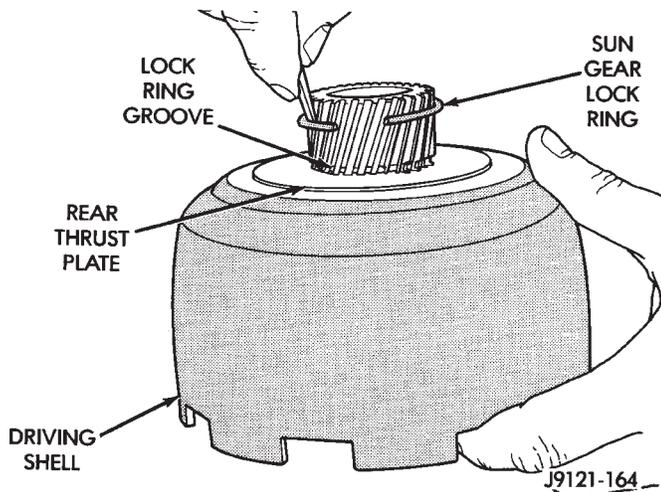

Fig. 199 Installing Sun Gear Lock Ring
(11) Align rear thrust plate on driving shell and install sun gear lock ring. Be sure ring is fully seated in sun gear ring groove (Fig. 199).